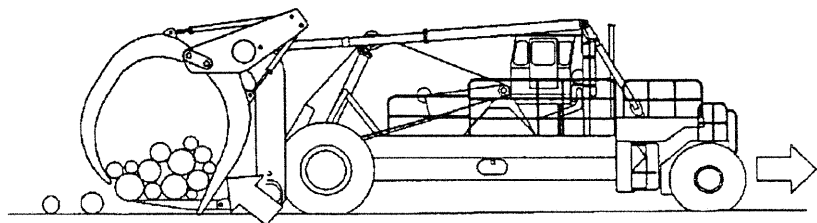

Fig 4-9
2. While backing the machine, slowly open the holddown arms and gradually push the load forward with the kickoff arms. This way, the logs can be dropped individually rather than all at once. See Fig. 4-9.
3. If several logs fall off at once and form a pile, stop the machine, tilt the carriage forward, and using the hold-down arms, rake the top logs back into the carriage. See Fig. 4-9.